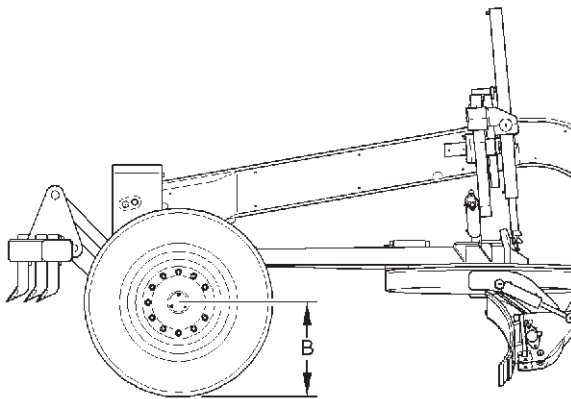
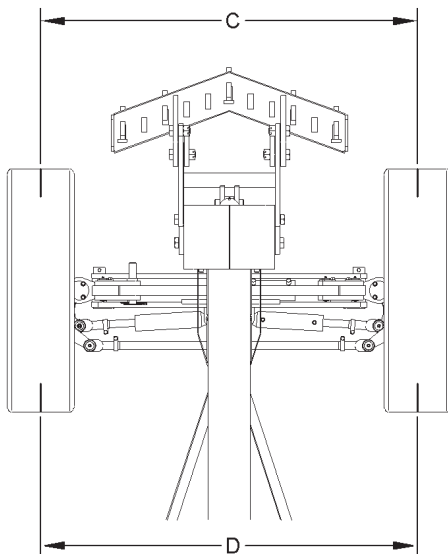

Figure 7-15. Ground to Hub Center Distance
Figure 7-16. Front and Rear Marks
7. Measure distance (B), Figure 7-15, from ground to center of hub.
9. At height (B), make a mark in center of tread on rear of each front tire.
10. Measure distance between marks (D), Figure 7-16, at rear of tires.
12. Measure distance between marks (C), Figure 7-16, on front of tires